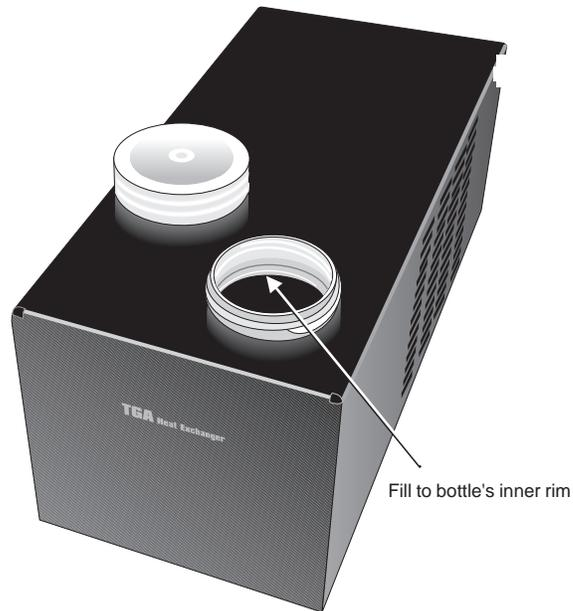

Figure 2.5
1. Unscrew the water reservoir cap on the heat exchanger bottle (see Figure 2.5).
2. Add TA Instruments TGA Conditioner (PN 952377.901) into the water reservoir bottle. Refer to the instructions on the bottle for the amount of conditioner to add to the reservoir. Then fill the bottle to the inner rim (see Figure 2.5) with distilled water.